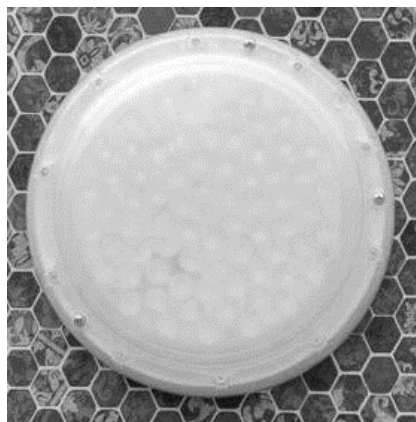

Figure 4
6. Attach the light to the mounting plate with the thin screws at the 1, 3, and 7 o' clock positions. See Figure 4.